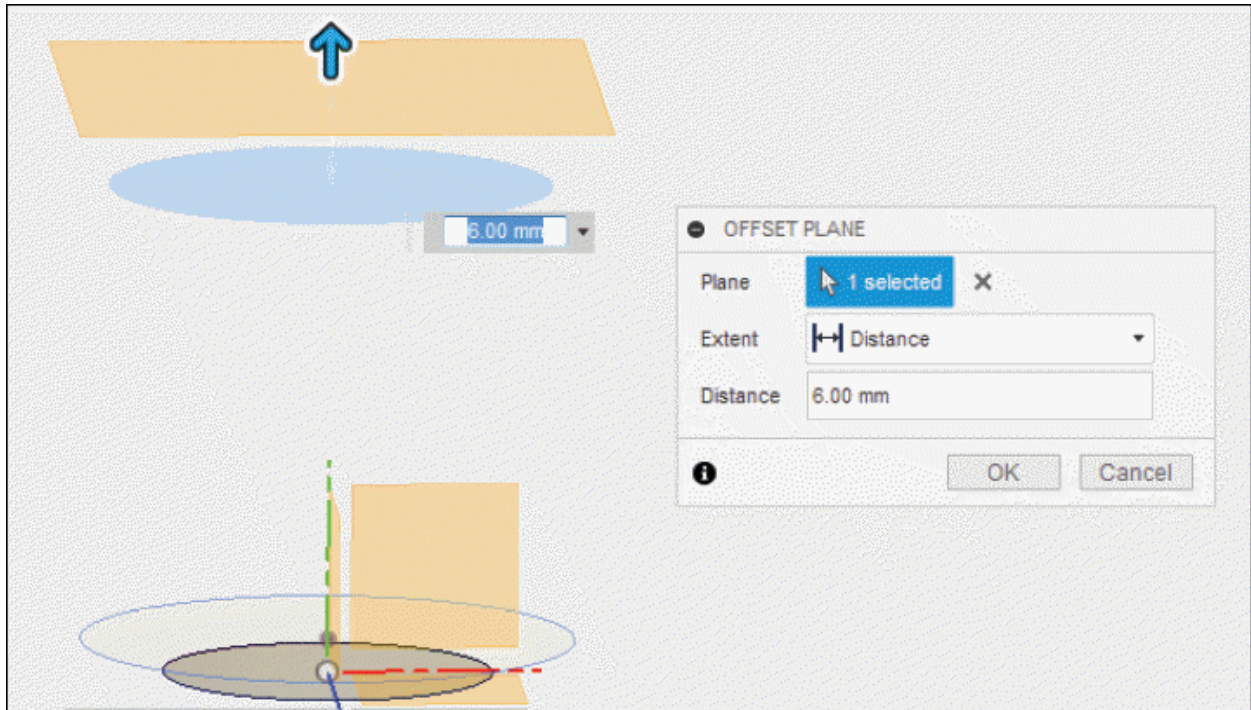

Figure-82. Creating fifth offset plane
- Click in the **Distance** edit box and enter the value as **8**; refer to Figure-82. You can also set the distance by moving the drag handle.